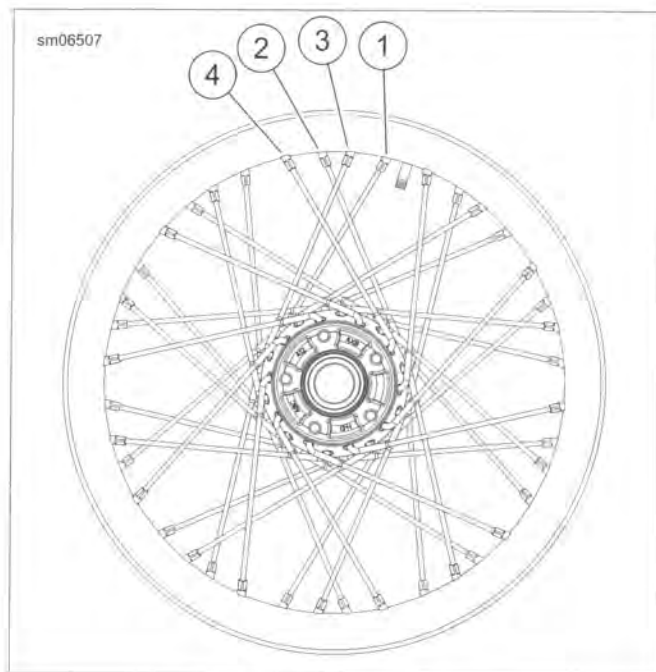

Figure 2-15. Center Valve Rim
7. See Figure 2-15. Install lower flange outer spokes and loosely install spoke nipples. Start at the first hole counterclockwise (1) from valve stem hole.
- a. Starting at the 2nd hole counterclockwise (2) from first spoke installed, install inner spoke.
11. Starting at the first hole counterclockwise (3) from first spoke installed, install inner spoke. Install all remaining inner spokes in every 4th hole.
13. Install outer spokes in remaining holes (4).